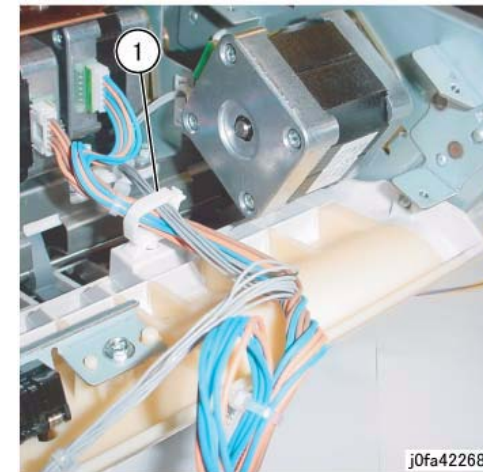

Figure 3 Releasing the Clamp
10. Release the Clamp from the wire (Figure 3):